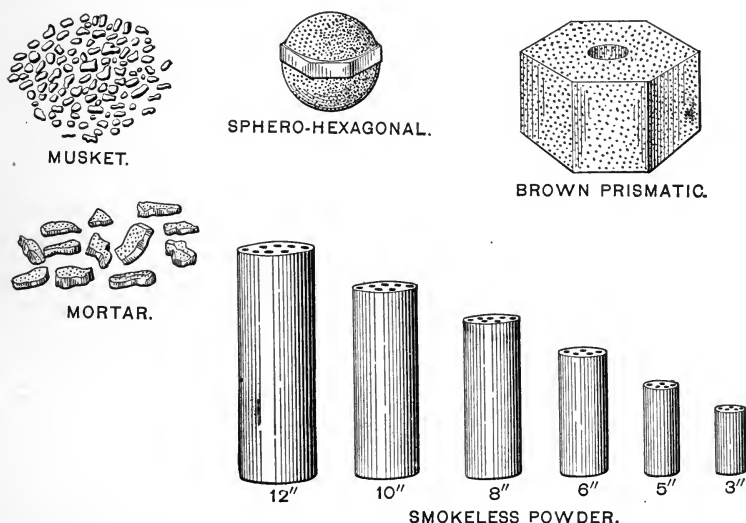

FIG. 33.
A. Musket is black and very fine grained. Sphero-hexagonal is black and in the shape of a small ball with a six-sided ring around it. Brown prismatic is brown, in the form of a six-sided prism with a hole in the center. All smokeless powder has the appearance of translucent celluloid and smells of ether. This powder grades in size according to the caliber of the gun, and has for large guns a cylindrical form with small holes running lengthwise in it. (See Fig. 33.)